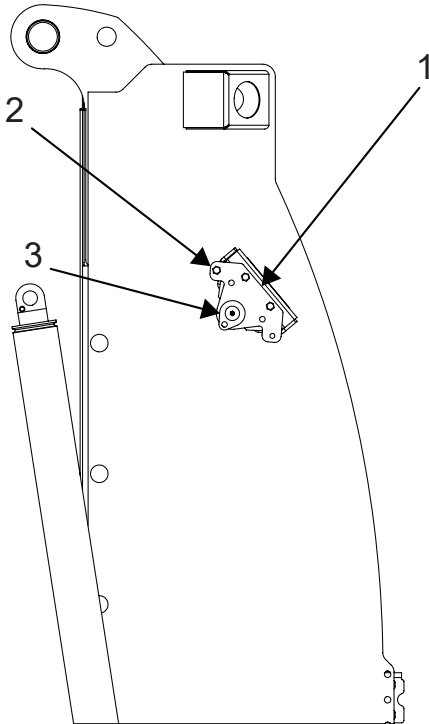

Figure 6
2. Use the cylinder mount pin to position the lug bolt template (Figure 6, Item 1) and rotate the template so the stop bolt (Figure 6, Item 2) touches the side of the lug. (Also for reference, cylinder pin is Item 3 in Figure 6).